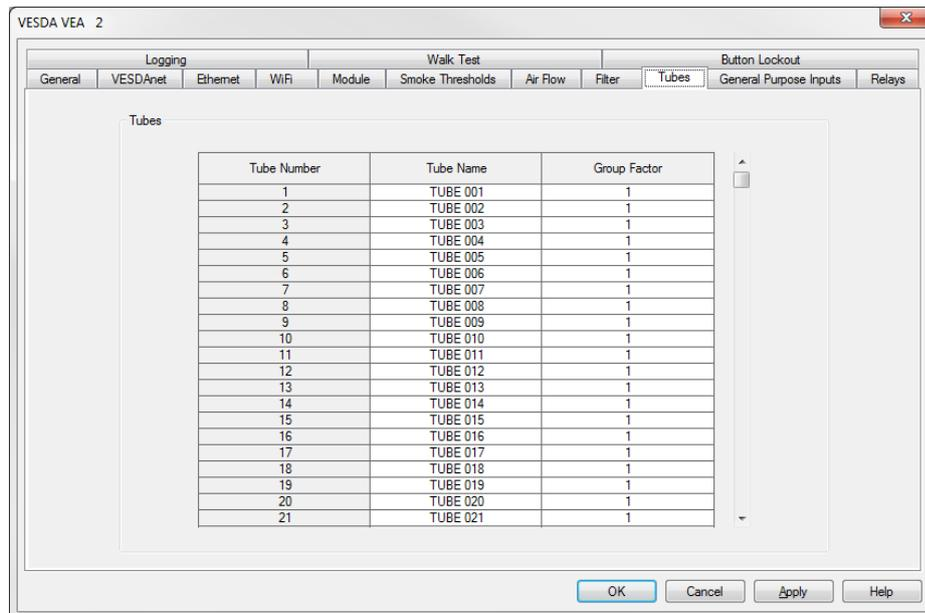

Figure A-20: Tube Configuration
- Enter Tube Names in use in the Expansion StaX using Xtralis VSC (Figure A-20). Tube numbers are pre-allocated - 1-40 for the detector, 41-80 for Expansion StaX 1, 81-120 for Expansion StaX 2. Refer to Section 5.5.8 on page 69 for further information.